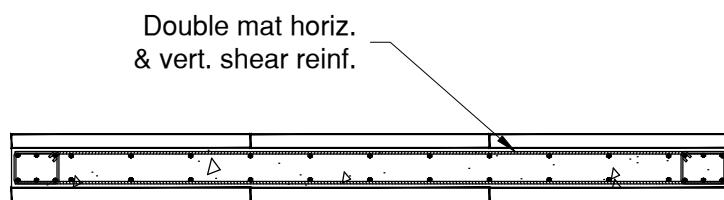

FIGURE 8: PLAN VIEW
2. Provide double mat of reinforcement for 12" Element wall. See Figure 8.